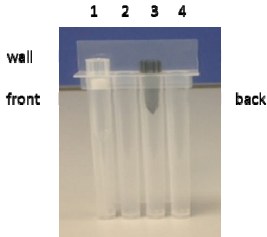

Figure 11: Tips disposition on Tip Cassette
Ensure that the Tip (1) and the piercer (3) are placed as shown in the picture below (Figure 11).